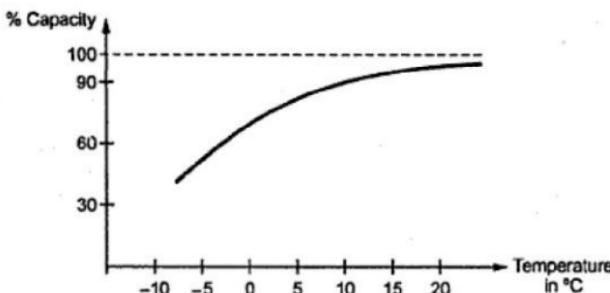

Fig. 1.28 Effect of temperature on battery capacity
3. **Temperature :** As temperature increases, the battery capacity increases. This is shown in the Fig. 1.28.